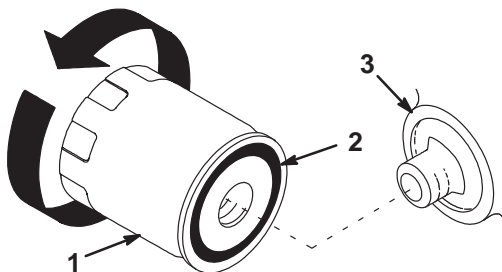

Figure 17
11. Change the oil filter, if necessary (Fig. 17).
2. Remove the old filter and wipe the filter adapter (Fig. 17) gasket surface.
3. Apply a thin coat of new oil to the rubber gasket on the replacement filter (Fig. 17).
4. Install the replacement oil filter to the filter adapter. Turn the oil filter clockwise until the rubber gasket contacts the filter adapter; then tighten the filter an additional 1/2 to 3/4 turn (Fig. 17).